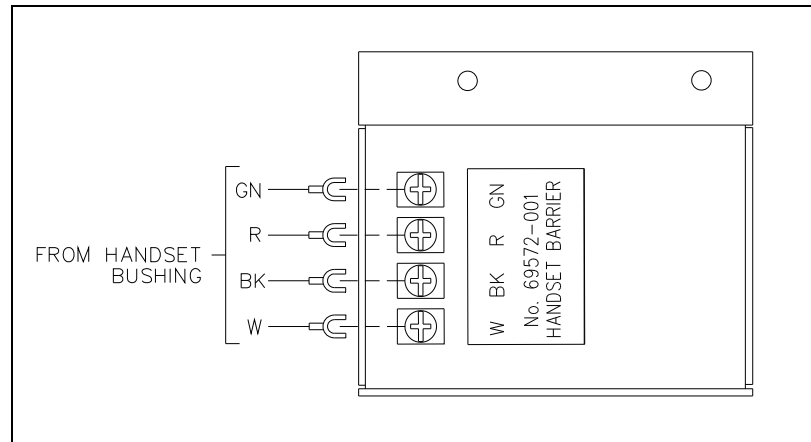

Figure 4. Handset Barrier Connections
3. Re-attach the wires from the handset and coil cord to the handset barrier (see Figure 4).